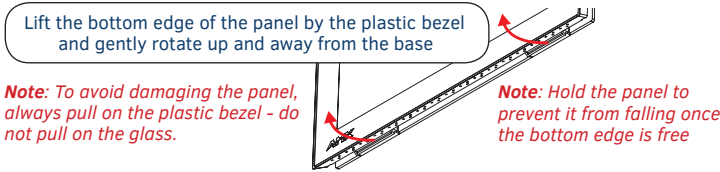

FIG. 7 MD-1002/BACKBOX ASSEMBLY (RELEASING THE BOTTOM EDGE OF THE PANEL)
2. Grasp the bottom of the panel and pull gently outward until the side of the panel is free of the snap. Use your other hand to stabilize the front of the touch panel (FIG. 7):